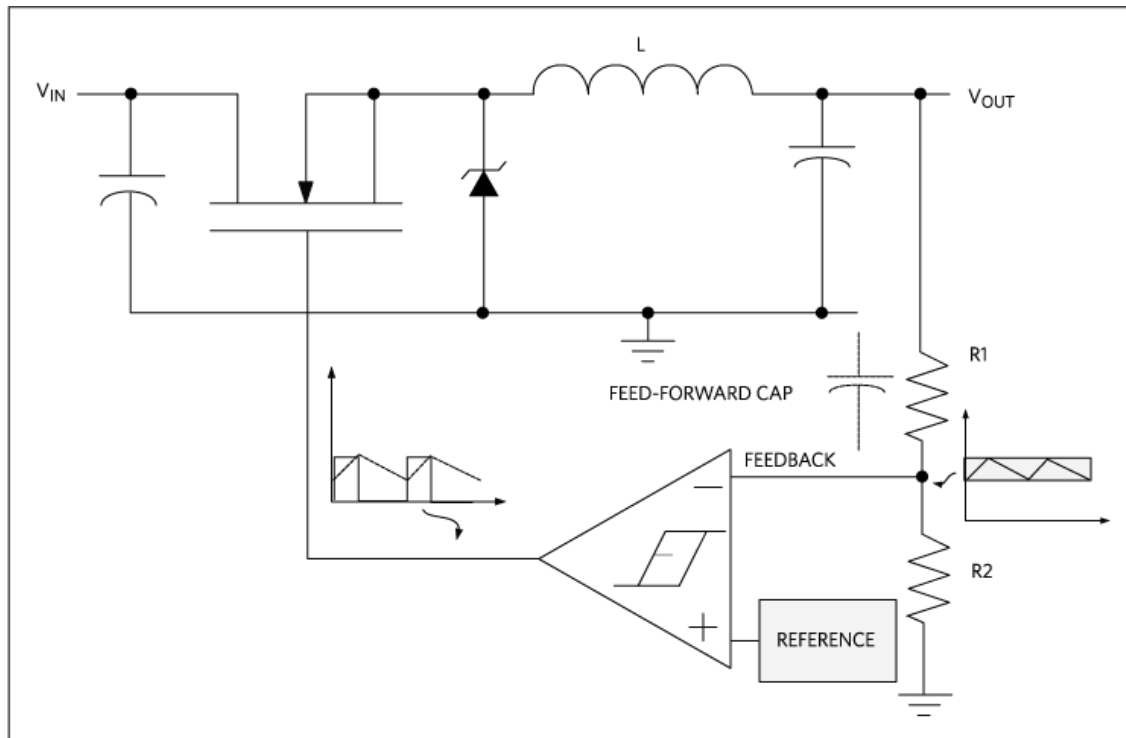
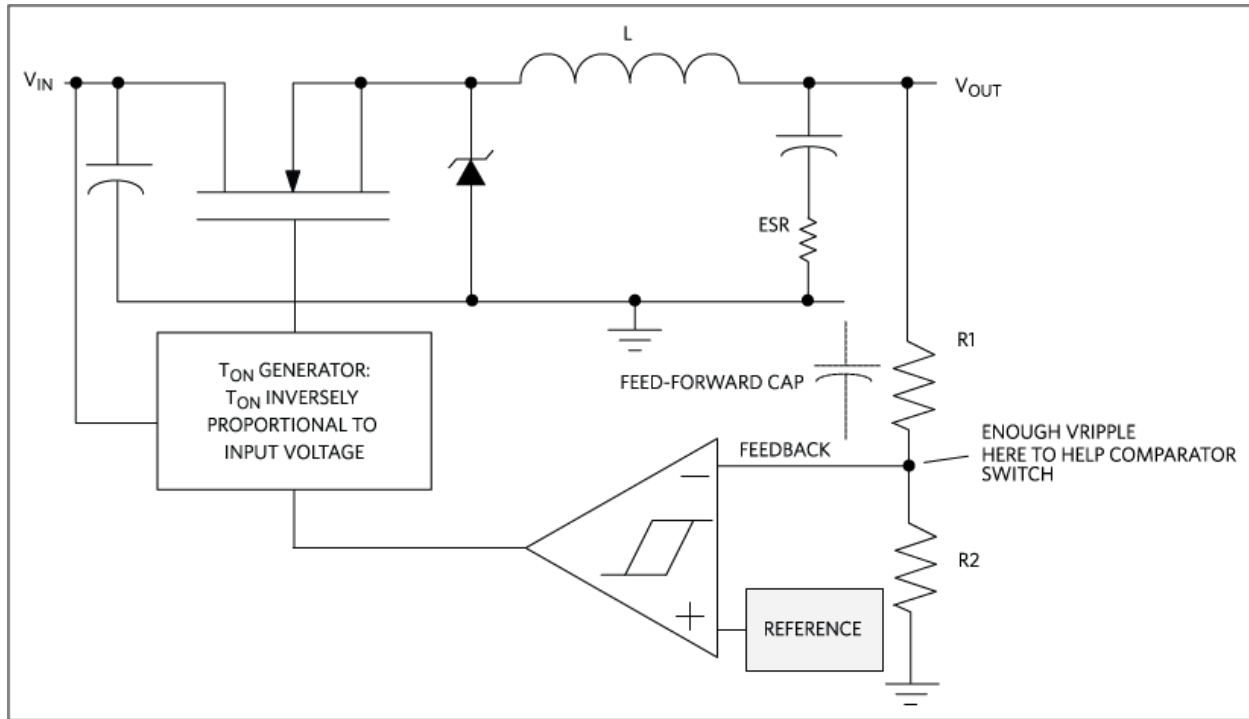
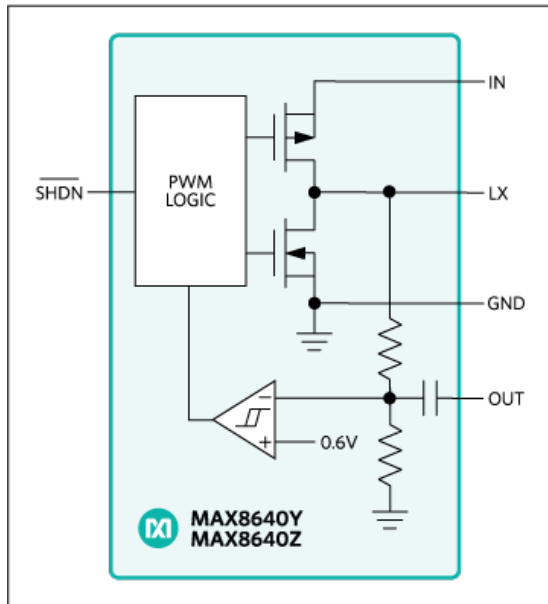

Figure 3. Hysteretic control converter turns the power FET on or off based on the output voltage changes sensed by the converter.
Figure 4. Constant on-time (COT) hysteretic converter keeps the frequency as constant as possible.
Figure 5. Hysteretic PWM control in the MAX8640Y/MAX8640Z step-down converter.
As in most comparator-based circuits, hysteresis is used to maintain predictable operation and avoid switch chatter. The hysteretic converter2 in **Figure 3** turns the power FET on or off based on the output voltage changes sensed by the converter. Sometimes called a "ripple regulator" or "bang-bang controller," this architecture continuously shuttles the output voltage back and forth to just above or below the ideal set point. Because the hysteretic architecture varies, the drive signal to the power FET is based on the operating conditions of the circuit. The switching frequency is not constant. The hysteretic approach is, therefore, one type of PFM architecture.
- May require a feed-forward capacitor across R1 in Figure 3 to increase voltage ripple on the feedback pin when using lower-ESR output capacitors.
Recall that the main disadvantage of the hysteretic converter is the variable frequency. Because it uses a comparator with hysteresis, there must be sufficient voltage ripple at the feedback node to ensure stable switching. Basically, the ripple voltage at the comparator's feedback node must be greater than the comparator's hysteresis band. Moreover, a higher ESR capacitor may be needed to increase output ripple voltage or a feed-forward capacitor like the one in Figure 3 must be added. To keep the frequency as constant as possible, a constant on-time (COT) generator has been added. In this COT control mode, the  $T_{ON}$  time will be inversely proportional to the input voltage, as shown in Figure 4.
There are modern synchronous step-down converters that employ a minimum on-time control in a hysteretic PWM control scheme. As in Figure 3, the hysteretic comparator is still used. Operation of this control scheme is quite simple. When the output voltage is below the regulation threshold, the error comparator begins a switching cycle by turning on the high-side switch. This switch remains on until the minimum on-time expires and either the output voltage is above the regulation threshold or the inductor current is above the current-limit threshold. Once off, the high-side switch remains off until the minimum off-time expires and the output voltage again falls below the regulation threshold. During the off period, the low-side synchronous rectifier turns on and remains on until either the high-side switch turns on again or the inductor current approaches zero. To help improve efficiency, an internal synchronous rectifier eliminates the need for an external Schottky diode, as shown in **Figure 5**.